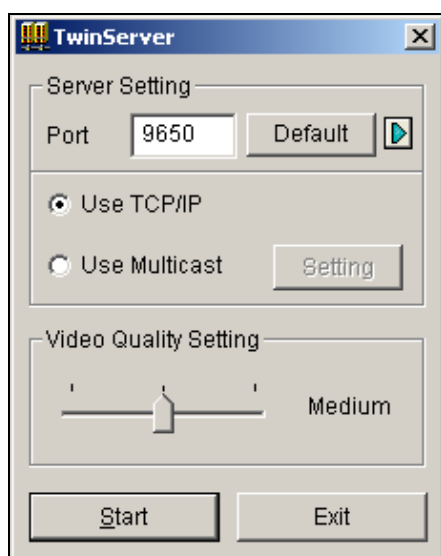

Figure 11-6 TwinServer Settings
3. Keep the server port in default, or it should match the TwinServer port. See Figure 11-6.